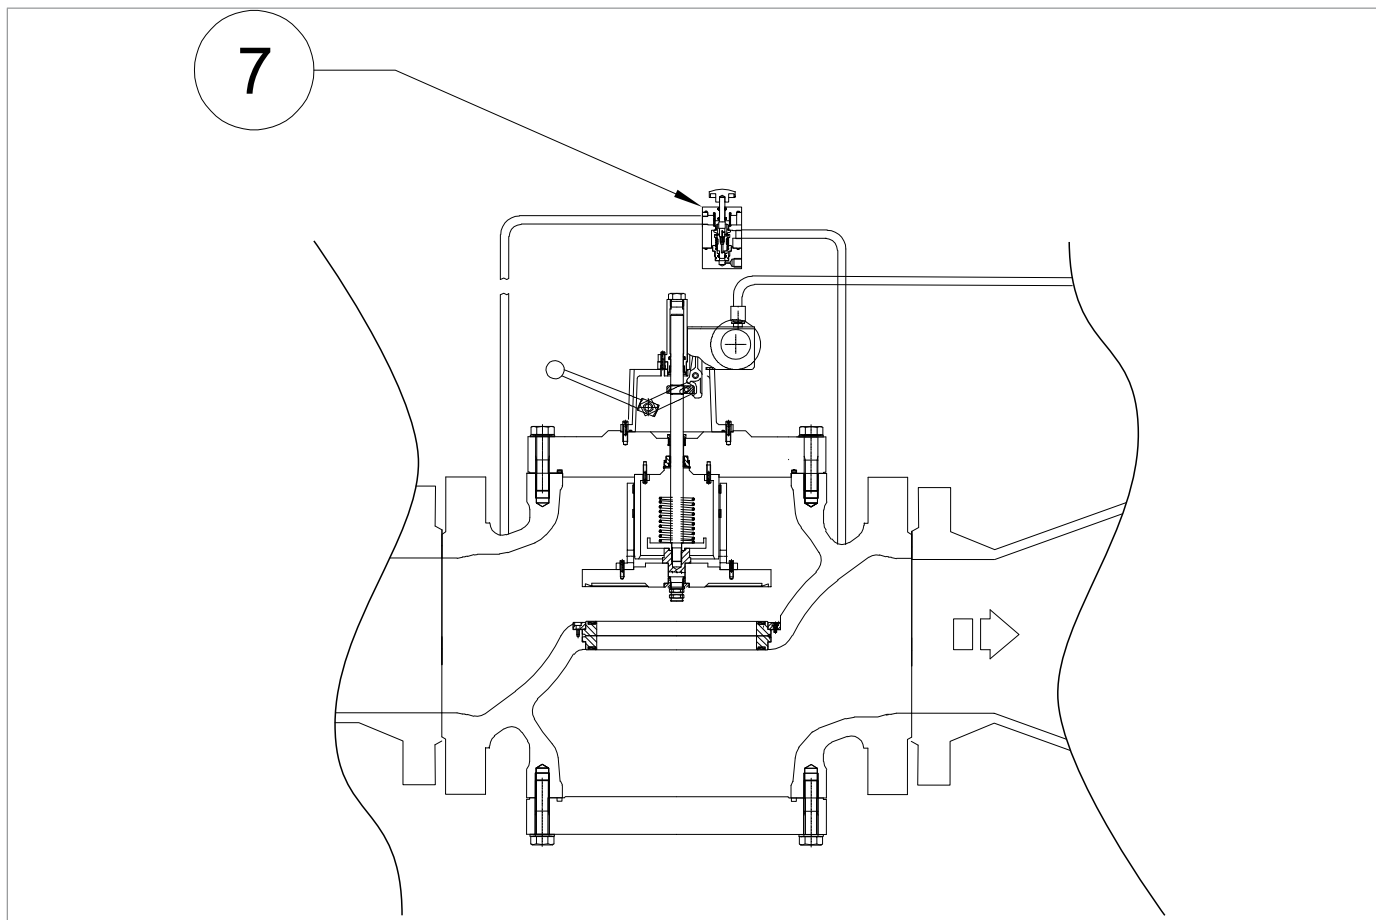
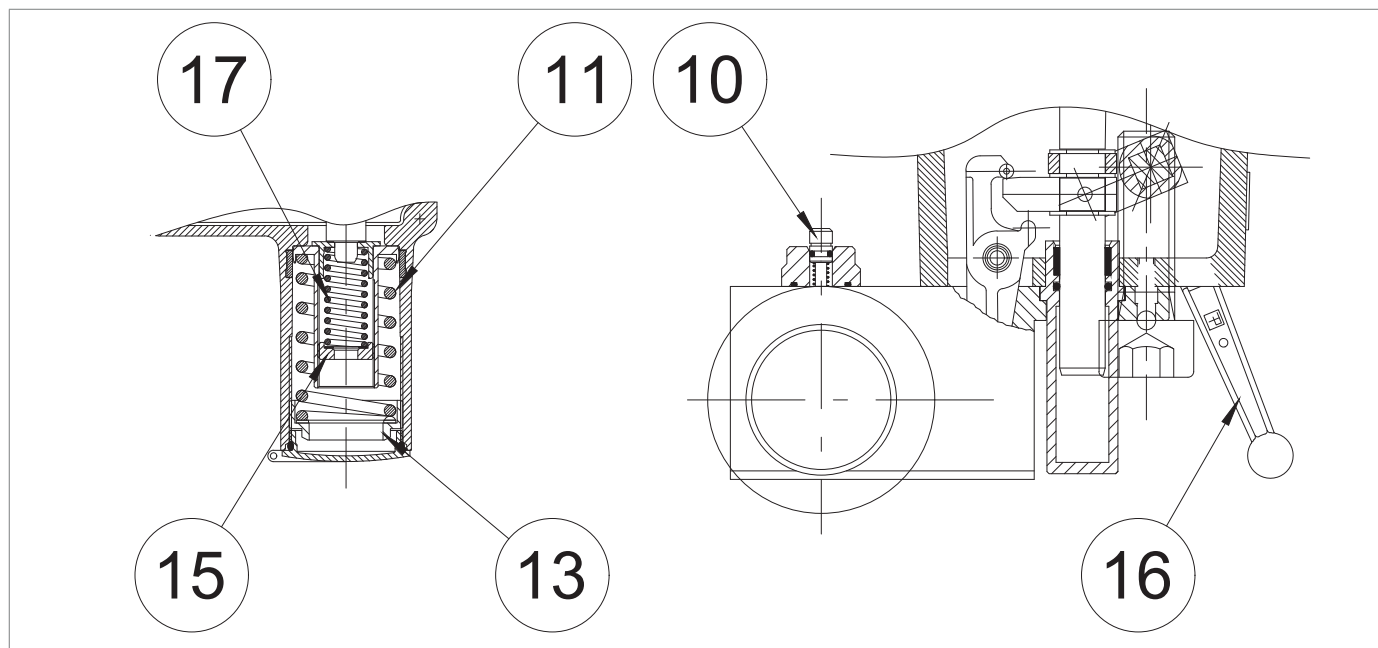

Fig. 8.13. HP2/2 by-pass detail only valid for 10".
Fig. 8.15. Calibration of pressure switches Mod.100
2	Check that the slam-shut valve (3) is in the closed position.  NOTICE! If the slam-shut valve (3) is in the open position, close it using the manual button (Fig. 8.15, ref. 10).
5	a- VALID FROM 1" TO 8" Slowly pressurise the conveying or control line, acting on the reset lever (Fig. 8.15, ref. 16) of the slam-shut valve (refer to the "Operation" section of par. 4.2), checking that the downstream pressure (Dp) indicated by the downstream pressure gauge (5) is 20% lower than the pressure switch intervention value. b - APPLICABLE TO 10" ONLY Slowly pressurise the conveying or control line by pressing the HP2/2 by-pass button (Fig. 8.13, ref. 7) of the slam-shut valve (refer to the "Operation" section of par. 4.2), checking that the downstream pressure (Dp) indicated by the downstream pressure gauge (5) is 20% lower than the pressure switch intervention value.